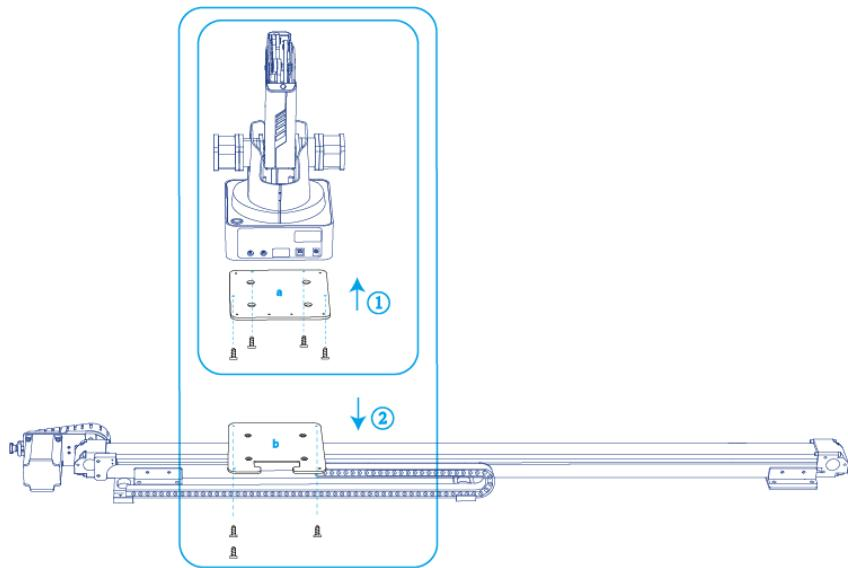

Figure 5.188 Fixed position with screws
Step 2 Fix the plate **a** (with Dobot Magician) on the plate **b** with three M3*8 hexagon socket head cap screws. Please make the back of the base of Dobot Magician towards the rabbet on the plate **b**, as shown in Figure 5.188.